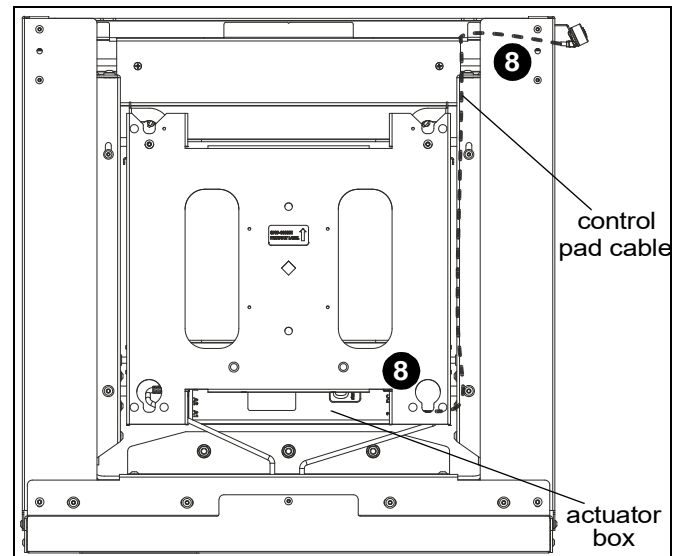

Figure 26
8. Route and connect control pad cable to actuator box into port A1 or A2. (See Figure 26)